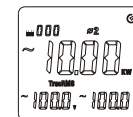

Figure 7-3
- As shown in Figure 7-3, please press SELECT key to select the 2nd phase location of $\phi 2$. It also can display active power, voltage and current of phase location of $\phi 2$.